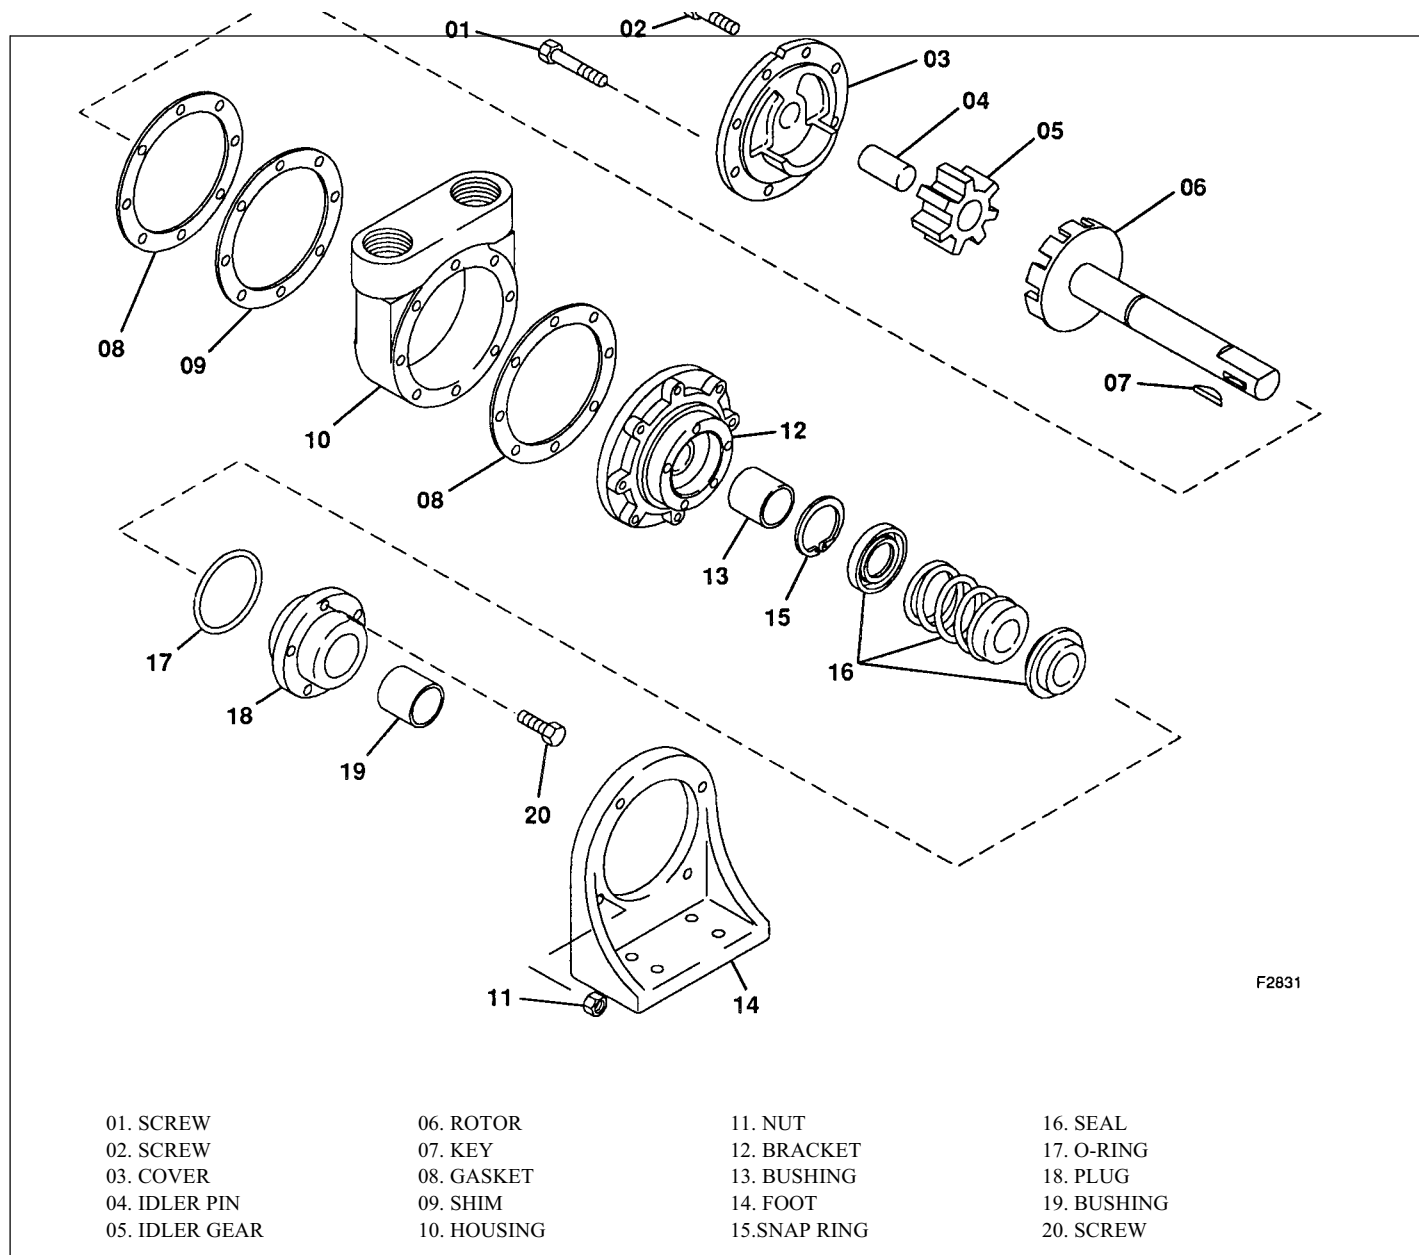

Figure 10-59. Lubrication Pump (37Z331)
- C. Refer to Figure 10-59 and remove the four capscrews (not shown) which secure the foot (14) to the pump mounting plate.
REPLACING THE SHAFT SEAL. Replace the shaft seal (16, Figure 10-59) as follows:
ASSEMBLY. Refer to Figure 10-59 and assemble the lubrication pump as follows: